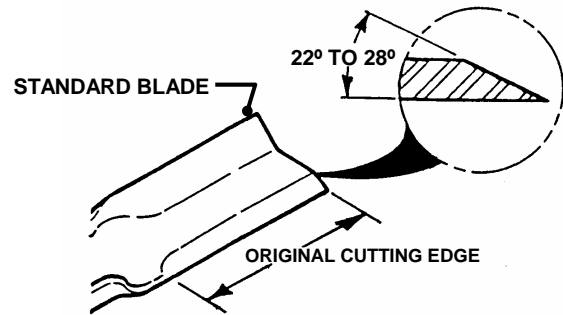

FIGURE 4.15
5. If a blade is in good condition, sharpen cutting edge at an angle of 22 to 28 degrees. **DO NOT** sharpen beyond existing cutting edge. Replace blades not in good condition. See Figure 4.15.